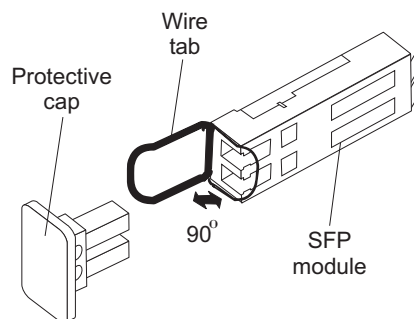

Figure 16. Installing an SFP module into the host port
4. Insert the SFP module into the host port until it clicks into place. See Figure 16 on page 33.